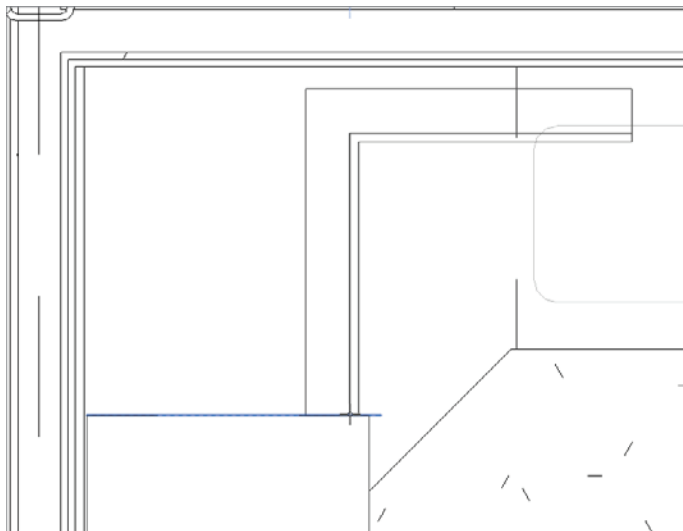

FIGURE 9.63 Adding the filler
12. Place it into the model on the side of the base cabinet, as shown in Figure 9.63.